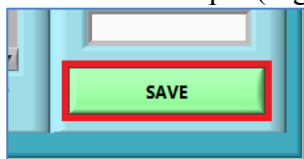

Figure 4.7-3: The **Save** button.
3. Repeat this process for any other parameter. Once complete, click **Save** to save all changes made to the recipe. (Figure 4.7-3)
The Recipe Info can be edited on the **Recipe Info** column (Figure 4.9-1) after changes are made, click **Save** to save them. (Figure 4.7-3) To configure the fields used by the **Recipe Info** column, see 2.7 Recipe Fields Page.